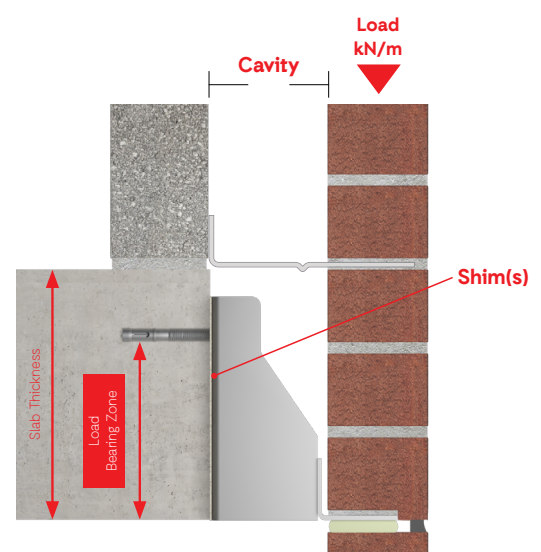

Figure 2
- Shims must support, and come into contact with the full 'Load Bearing Zone' (refer to Figure 2).